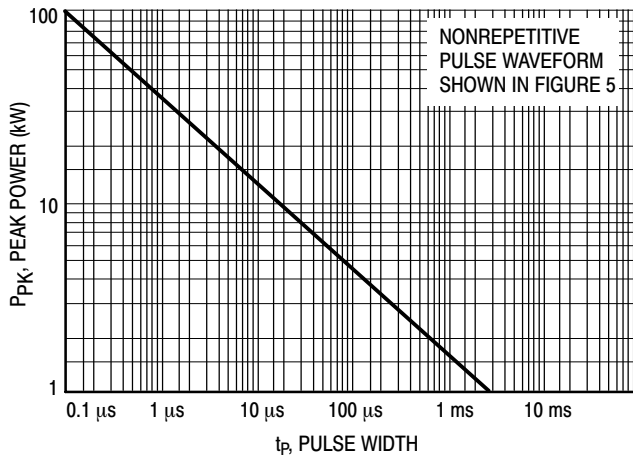
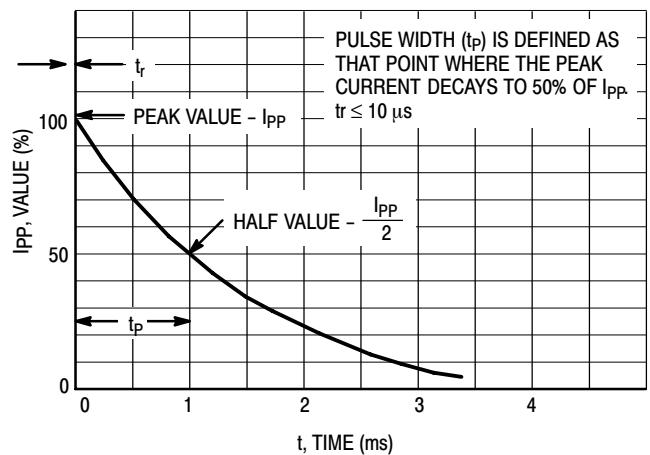
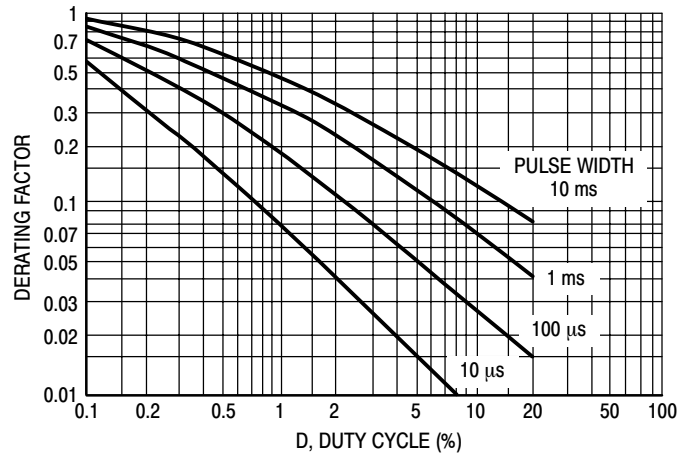

Figure 1. Pulse Rating Curve
Figure 5. Pulse Waveform
Figure 7. Typical Derating Factor for Duty Cycle
1. Nonrepetitive current pulse per Figure 5 and derated above  $T_A = 25^\circ\text{C}$  per Figure 2.
7. Surge current waveform per Figure 5 and derate per Figures 1 and 2.
The data of Figure 1 applies for non-repetitive conditions and at a lead temperature of 25°C. If the duty cycle increases, the peak power must be reduced as indicated by the curves of Figure 7. Average power must be derated as the lead or
At first glance the derating curves of Figure 7 appear to be in error as the 10 ms pulse has a higher derating factor than
the 10  $\mu$ s pulse. However, when the derating factor for a given pulse of Figure 7 is multiplied by the peak power value of Figure 1 for the same pulse, the results follow the expected trend.